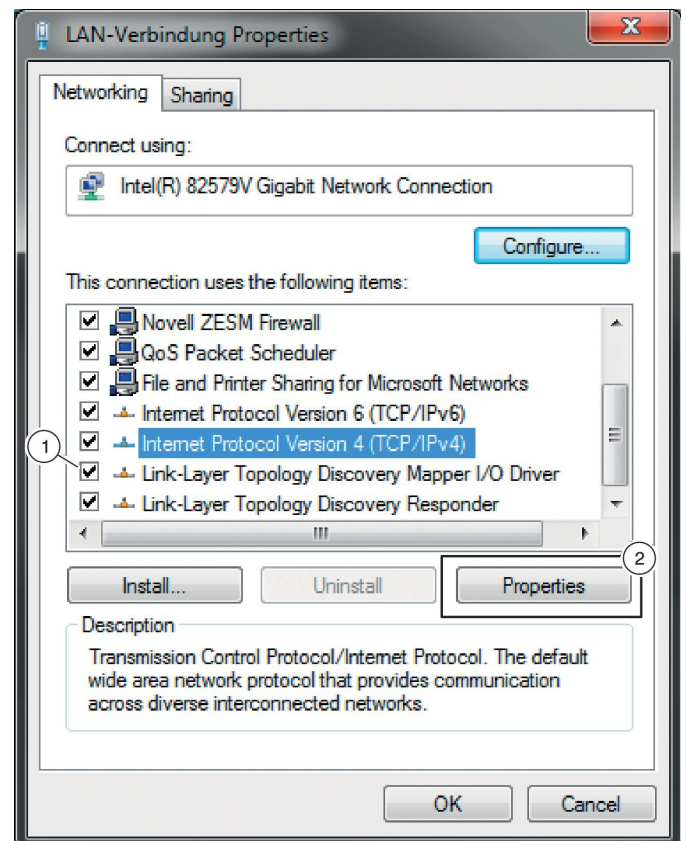

Fig. 53: LAN connection properties
6. ▶ Select 'Internet Protocol Version 4 (TCP/IPv4)' (Fig. 53 /1), then click on the 'Properties' (Fig. 53 /2) button.
7. ▶ Select the 'Use the following IP address:' (Fig. 53 /1) option, enter the IP address, subnet mask and default gateway and confirm with 'OK'.